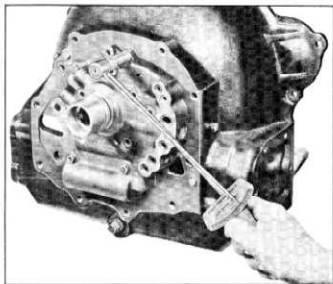

Fig. 199—Tightening Valve Body Attaching Bolts
4. Install valve body over guide pins and install attaching bolts tightening to $7\frac{1}{2}$ -10 ft. lbs. (fig. 199).